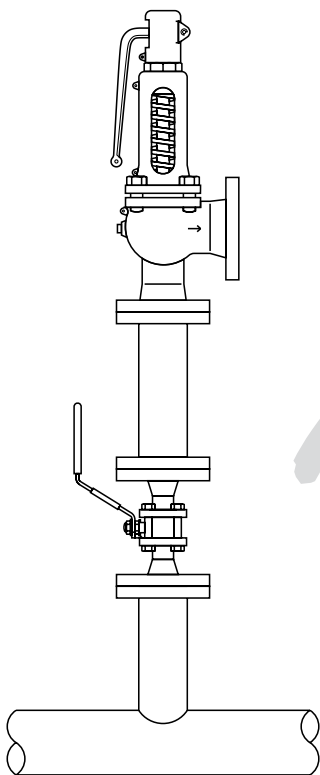

Fig. 4
- 6.3** There should be no intervening valve or fitting i.e. it should not be possible to isolate the safety valve (see Figure 4).